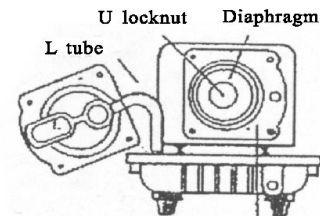

Figure 9c
- IV) Put back in place, ensure all screws are tight. (Figure 9c)